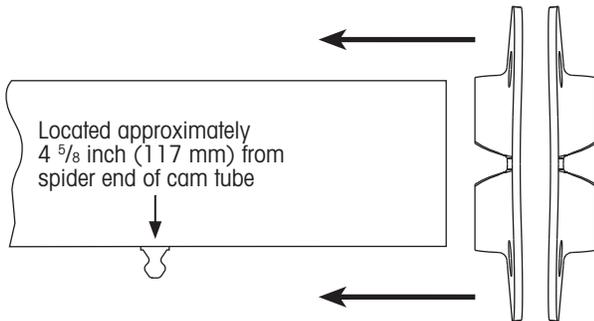

Figure 2: Install brackets back-to-back on cam tube
- Arrange Cam brackets back-to-back (item 9) onto cam tube as shown in Figure 2 and Figure 3. Slide brackets onto cam tube until they contact the Cam tube "L" bracket and align with holes.